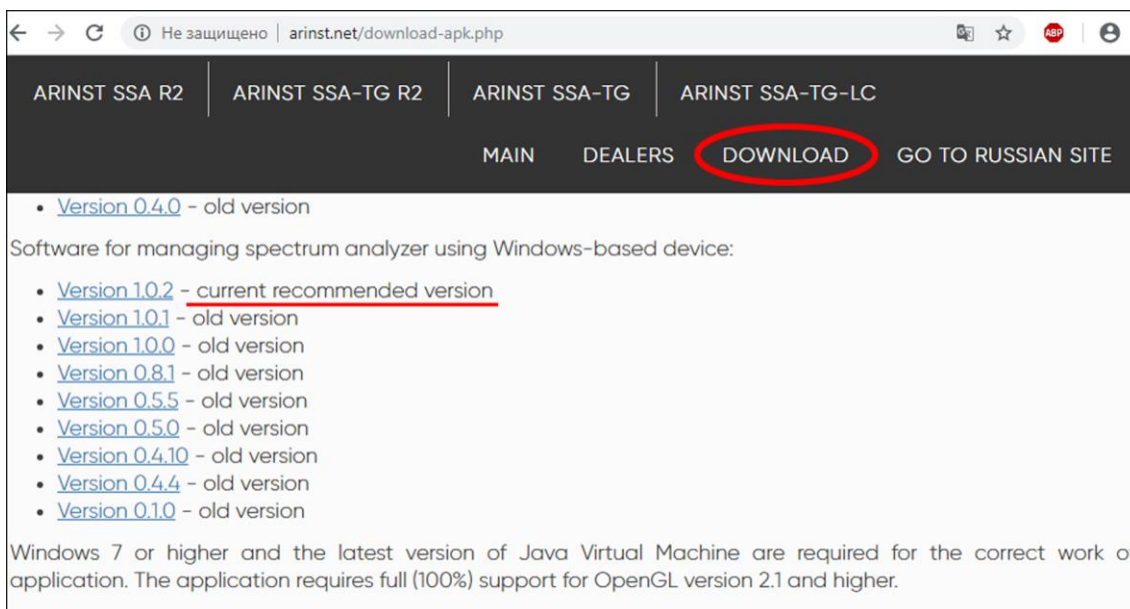

Figure A1 – Loading the management software for the spectrum analyzer
2.1. Visit the official ARINST website by typing <http://www.arinst.ru/> in the address bar of your browser. Go to the DOWNLOAD section and click on the current recommended version of the software for controlling the spectrum analyzer using computers running the Window family OS (Figure A1).